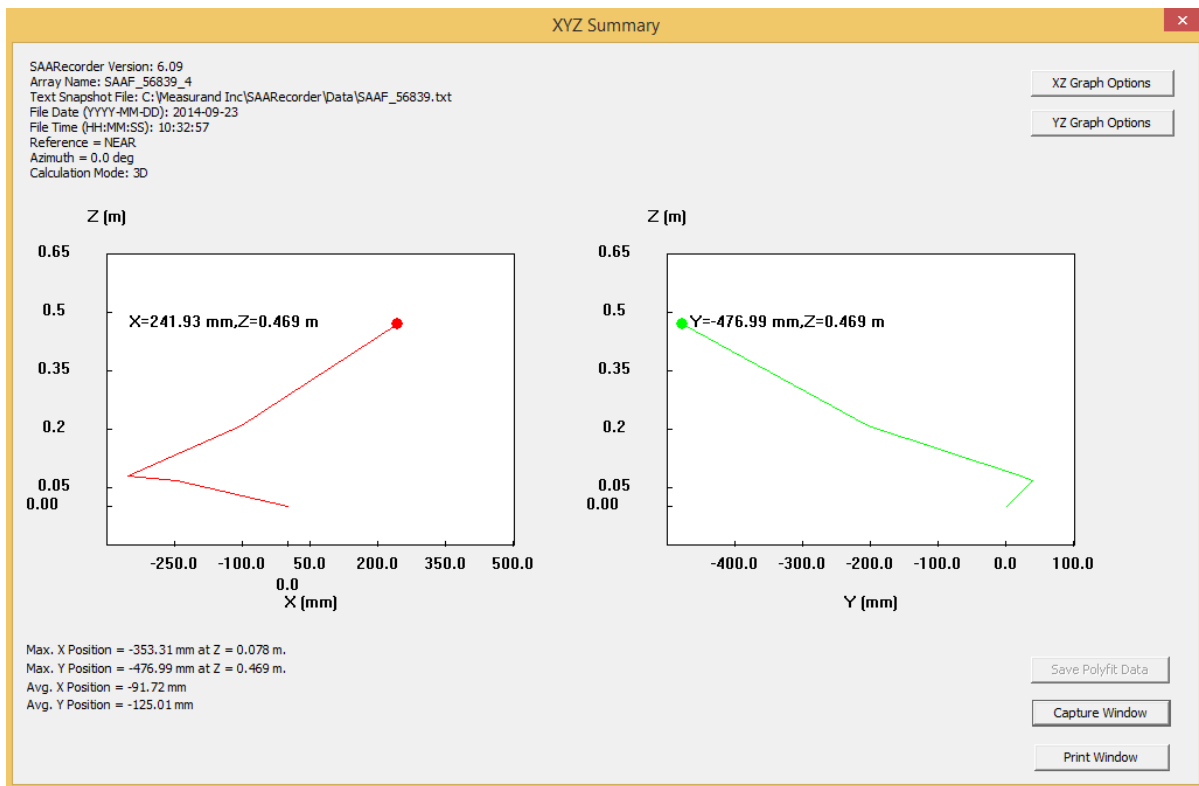

Figure 6.46: The 'XYZ Summary' window.
- The 'XYZ Summary' Graph window will open see **Figure 6.46**.